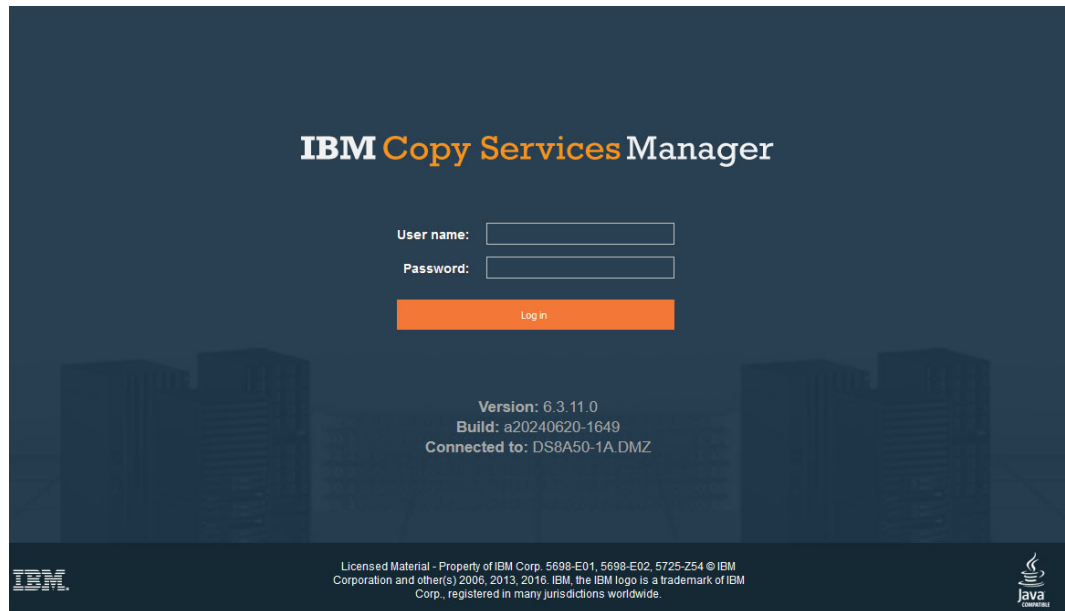

Figure 9-2 IBM Copy Services Manager window started from the DS GUI
5. Clicking the IBM Copy Services Manager icon opens a window to the IBM Copy Services Manager Console that is installed on the HMC, as shown in Figure 9-2.